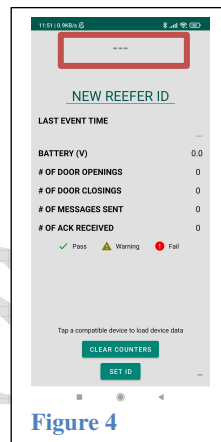

Figure 4
4. The current container ID, if any, will appear at the top. If no container ID is present dashes will be displayed. Figure 4